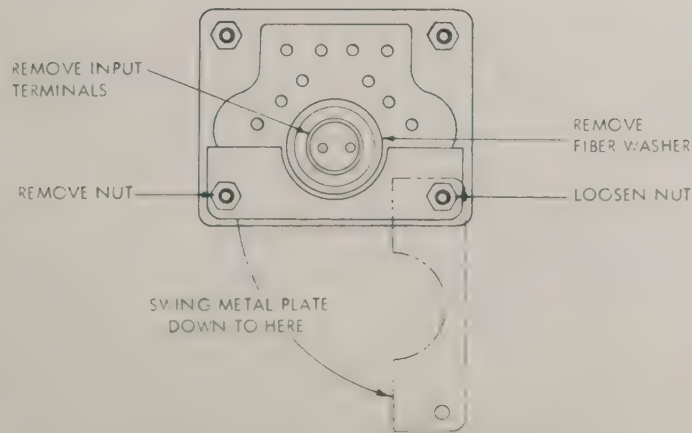

Figure 2-6. Housing-Mounted Amplifier Connector (Rear Detail)
- c. Place the module on its side. Using a slot-blade screwdriver on the inside and a No. 4 nutdriver on the outside, remove the lower left (from the rear) screws and nuts which secure the notched metal plates across the bottoms of each of the six amplifier connectors (Figure 2-6).
- d. With the same screwdriver and nutdriver, loosen the remaining screws and nuts (lower right as viewed from the rear) which secure the notched plates (see Figure 2-6).
- e. Grasp the left end of each metal plate and pull gently outward and downward, swinging into the position indicated by dashed lines in Figure 2-6.